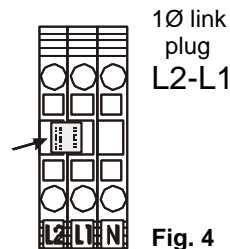

Fig. 4
- 1. **1 Ph units:** Connect the incoming Live supply to L1 and push the link plug hard home between L1 and L2 at the external electric box **(Fig. 4).**